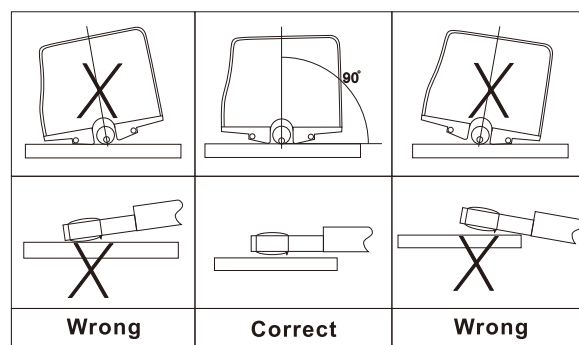
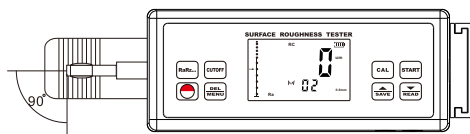

Fig. 4-1
Fig.4-2
H. Refer to Figure 4-1 and Figure 4-2 to place the instrument correctly, stably and reliably on the surface to be measured.
I. Refer to Figure 4-2, the sliding trail of the sensor must be vertical to the direction of process line of the measured surface.